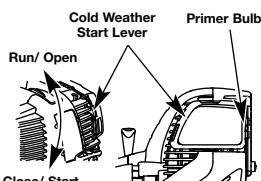

Fig. 11
IF COLD... For cold weather conditions (below 40°F), flip the Cold Weather Start Lever (Fig. 11) down to the start/closed position and continue to step 3. DO NOT flip this lever down if the temperature is above 40°F.
3. Fully press and release the primer bulb 10 times, slowly. Some amount of fuel should be visible in the primer bulb and fuel lines (Fig. 11). If you can't see fuel in the bulb, press and release the bulb as many times as it takes before you can see fuel in it.